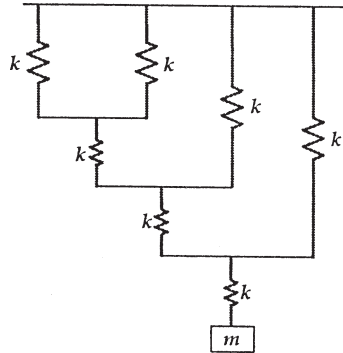

Fig. 1
- b) Determine the equivalent spring stiffness for the system shown in Fig. 1. Consider $m = 20$ kg and $k = 2 \times 10^5$ N/m. [10]